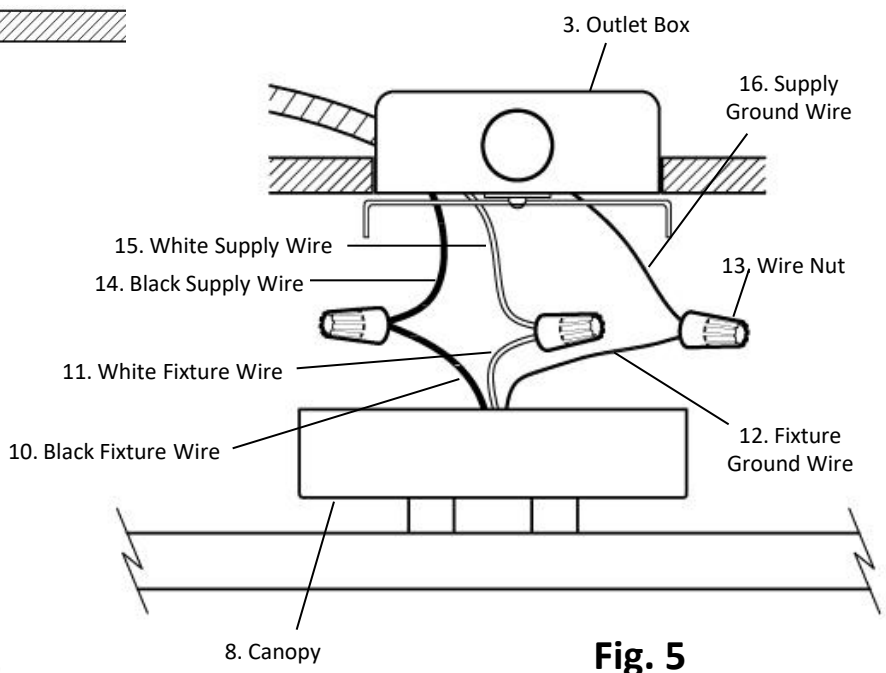

Fig. 5
5. Attach the Black Supply Wire (#14) to the Black Fixture Wire (#10) and the White Supply Wire (#15) to the White Fixture Wire (#11) using Wire Nuts (#13). Connect the Fixture Ground Wire (#12) and the Supply Ground Wire (#16) together using a Wire Nut (#13). Wrap all wire connections with electrical tape for a more secure connection. (Fig. 5) Note: If you have electrical questions, consult your local electrical code for approved grounding methods.